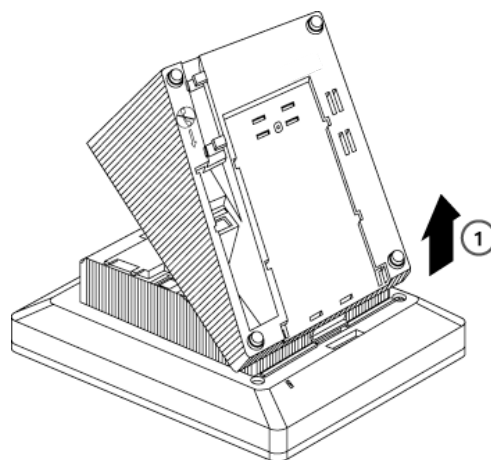

Figure 3-31. Removing the Deskstand
3. Lift the deskstand out of the locating slot in the telephone base as shown in Figure 3-31 and place to one side.